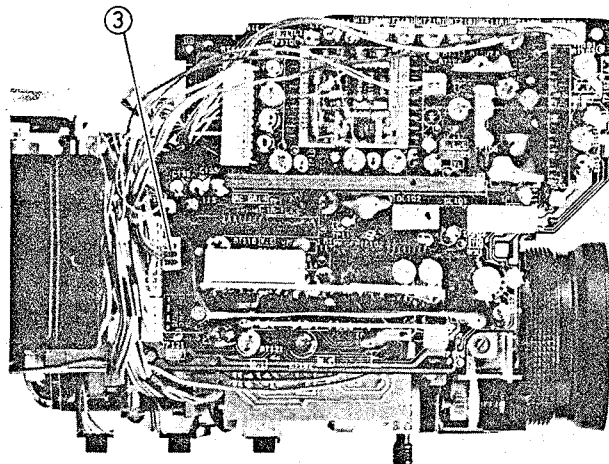

Fig. 2-30 Camera Switch Circuit Board Removal
3. Disconnect connector CN1619. (See Fig. 2-30)